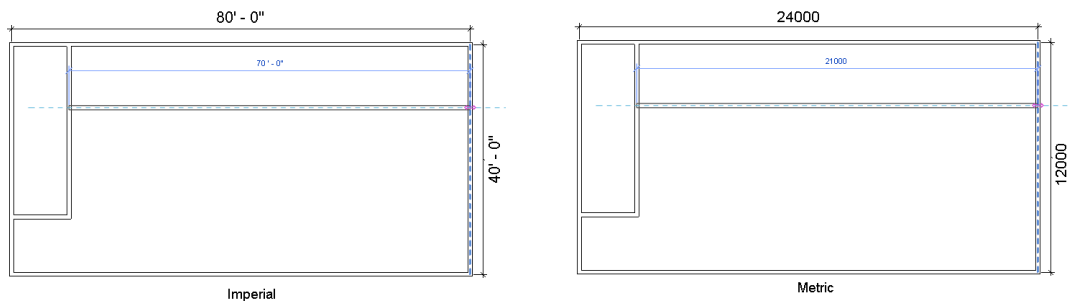

Figure 3-68 Sketching the second interior wall
- Press SHIFT and move the cursor toward right near the right exterior wall segment. Now, click to specify the location of the endpoint of the wall segment; the second interior wall segment is sketched, as shown in Figure 3-68.